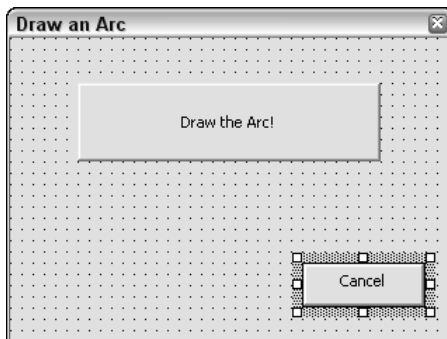

Figure 37-9: A simple dialog box created in VBA.
8. Change the Caption property of the smaller button to Cancel. Change its Name property to `cmdCancel`. Your dialog box should look like the one in Figure 37-9.